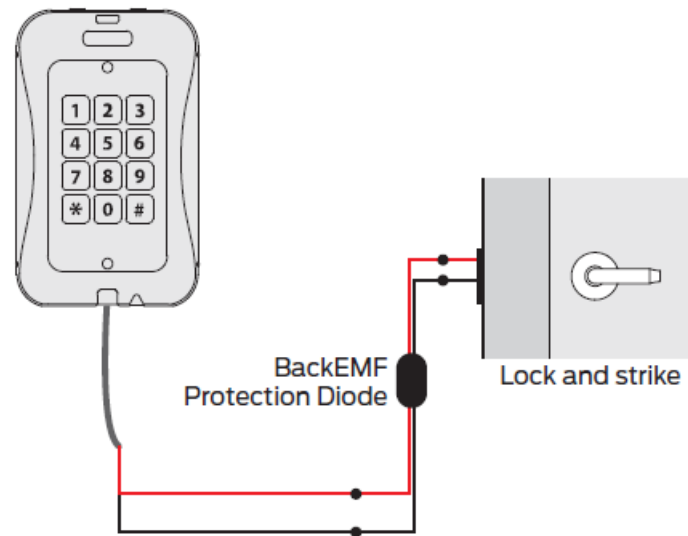

Figure 2.4: Typical fail-secure door lock wiring
1. Connect the red wire on the Reader Controller to the positive lead of the electric lock. See Figure 2.4: Typical fail-secure door lock wiring